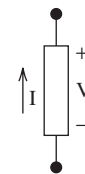

FIGURE P2.19 Image for Problem 2.19.
- 2.19 (B) True/false: The notation in Figure P2.19 conforms to passive reference.